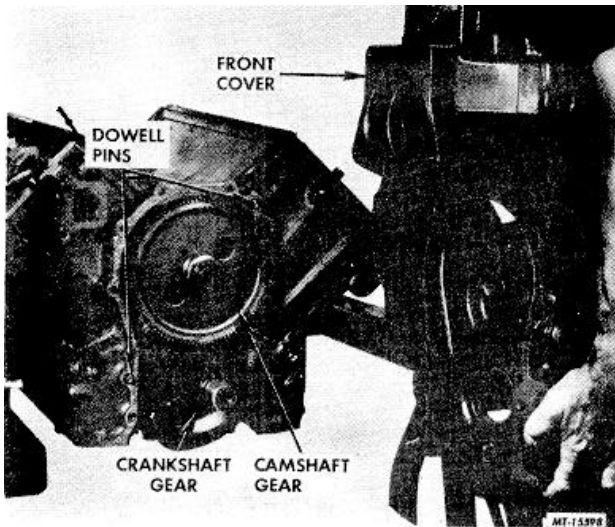

Fig. 168 Installing Engine Front Cover
25. Position a new engine front cover gasket over dowel pins in crankcase. Coat right water outlet gasket with grease and position to crankcase. Install engine front cover assembly (Fig. 168) and idler arm mounting bracket (Fig. 66).